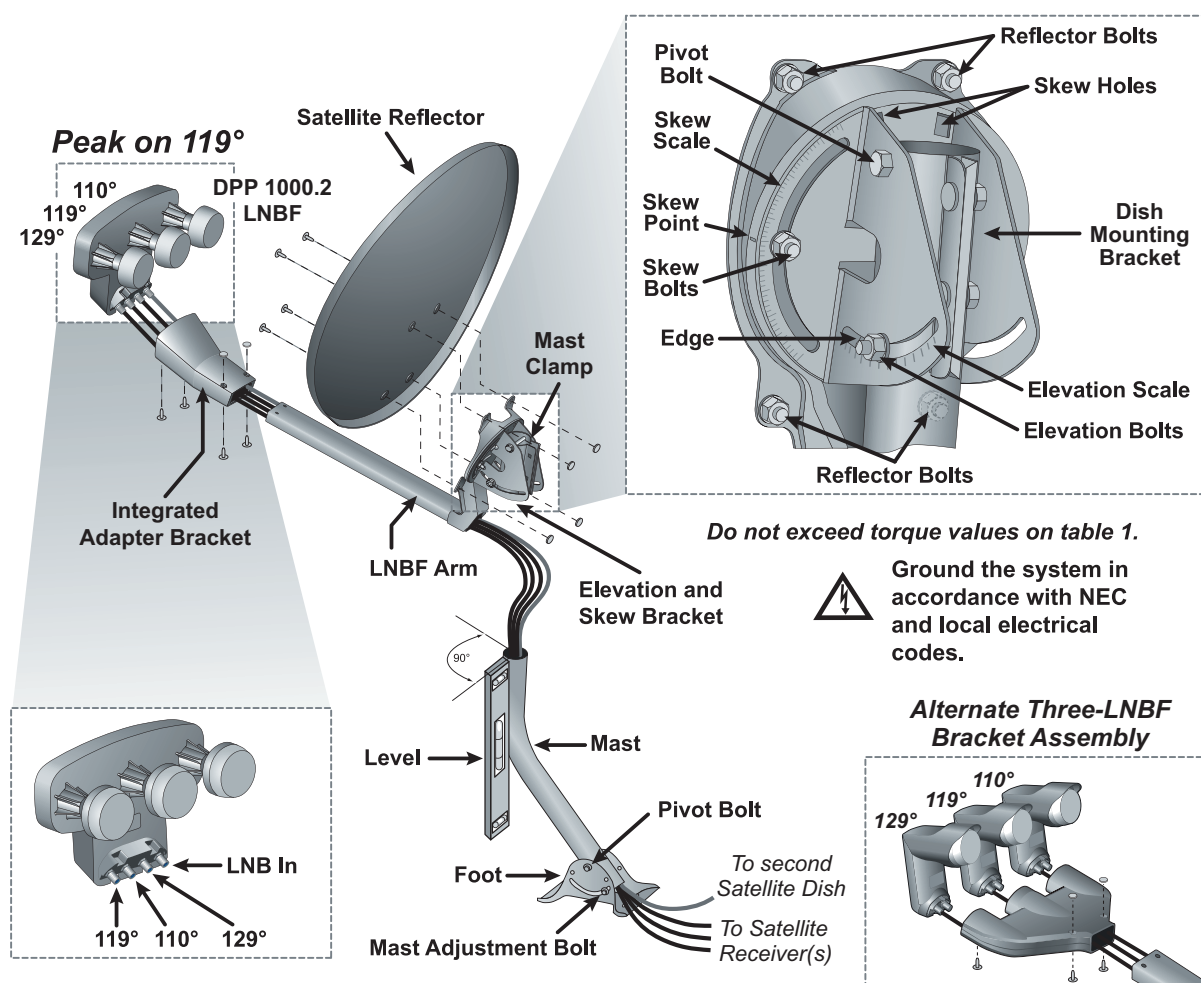
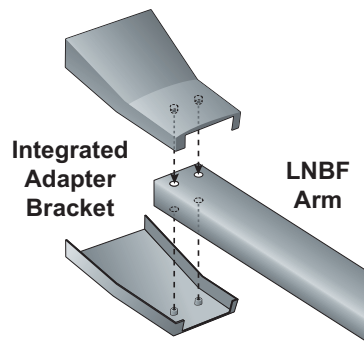

Figure 1. DISH 1000.2 Antenna Installation Overview
Figure 3. Bracket posts fitting into LNB arm (bolt holes removed for clarity)
- 3 Align the top part of the mast so that it is absolutely vertical. If the top part of the mast is off vertical by only a few degrees, it will be difficult or maybe even impossible for you to find the satellites. Take at least two readings with a level, on the upper mast, that are 90 degrees apart from one another (see Figure 1).
Assemble the satellite dish as shown in Figure 1, except do not attach the LNB at this time. When attaching the Integrated Adapter Bracket to the LNB Arm, be sure that the small posts on the bracket fit into the holes on the LNB Arm (see Figure 3).
Use the steps below while referring to Figure 1.